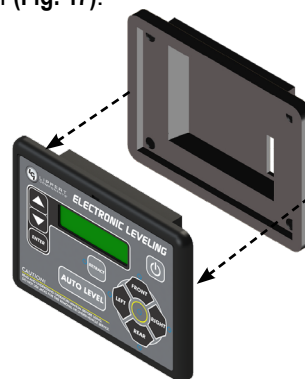

Fig.17
1. Remove the face plate of the touch pad from the mounting bezel (Fig. 17).